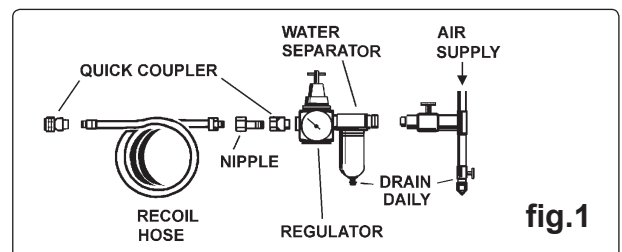

fig.1
- 3.2. Where possible the compressor should be sited in a separate room with the connecting airline kept as short as possible. The compressor should have an air filter and water separator (fig.1).
- 3.4. The recommended hook-up procedure is shown in fig.1.